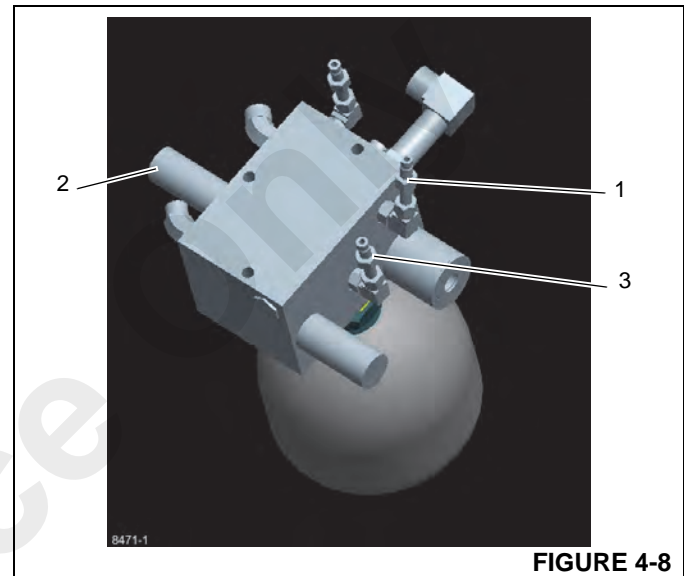

FIGURE 4-8
1. Install a 0 - 344.73 bar (0-5000 psi) pressure gauge on the G1 port (1, Figure 4-8) located on the brake/steering manifold.
5. Install a 0 - 344.73 bar (0-5000 psi) pressure gauge on the G2 port (3, Figure 4-8) located on the brake/steering manifold.
should cut out at $138 \pm 7/-0$ bar ($2000 \pm 100/-0$ psi) if not adjust at UP10 piloted unloading valve (2, Figure 4-8); clockwise increases pressure, counterclockwise reduces pressure. (Note: If charge valve does not cut out check load sense relief valve pressure per Load Sense Relief Valve Pressure Setting procedure).